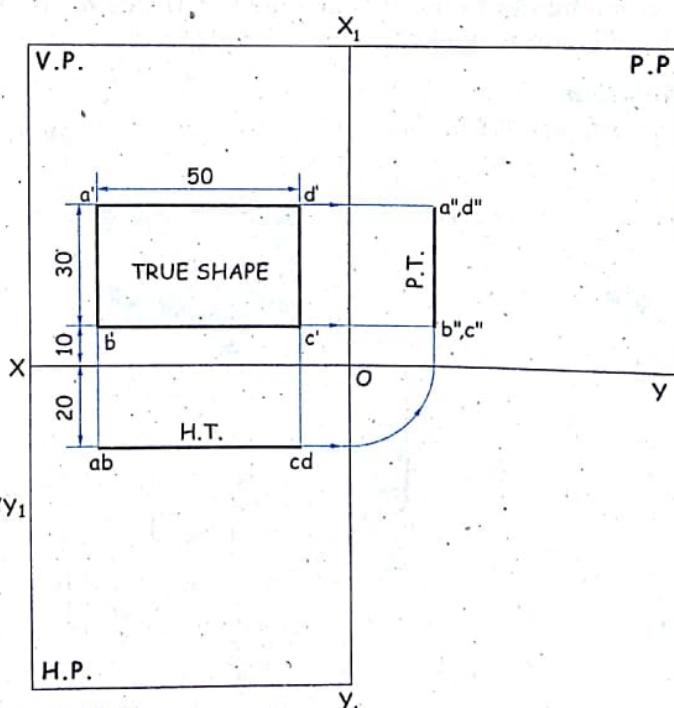

FIG. 9.2 (b)
- The required position of a plane $ABCD$ is shown in figure 9.2 (a) with its projections, i.e. F.V. $(a'b'c'd')$, T.V. $(abcd)$ and S.V. $(a''b''c''d'')$.